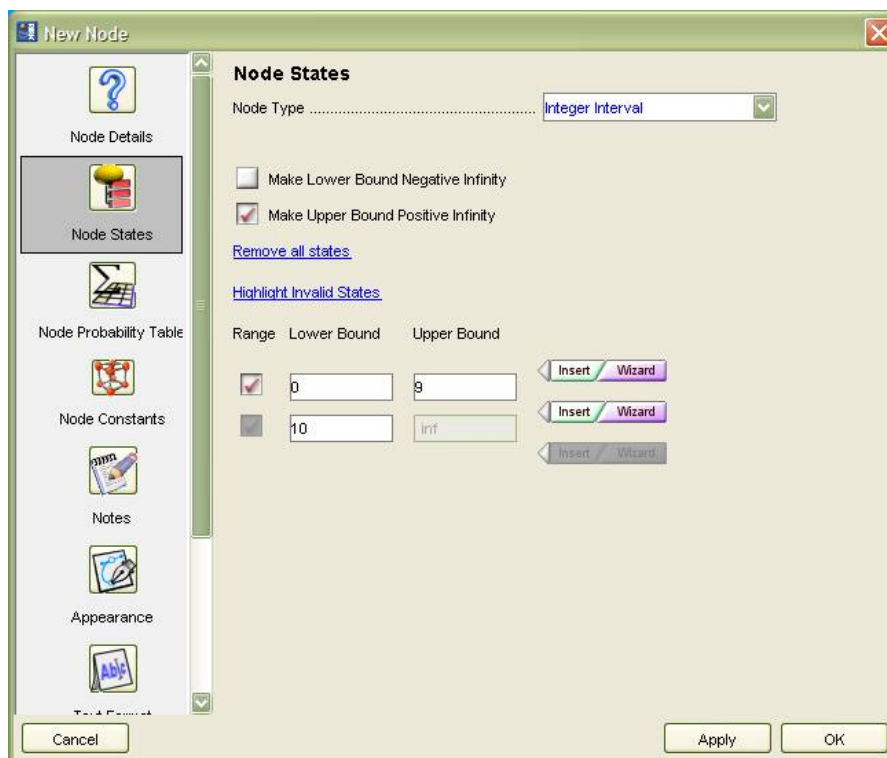

Figure 9 States on a new Integer Interval node
- Switch to the **Node States** tab, click on the **Remove all states** hyperlink and then check the **Make Upper Bound Positive Infinity** box. You should now have two states as shown in Figure 9.